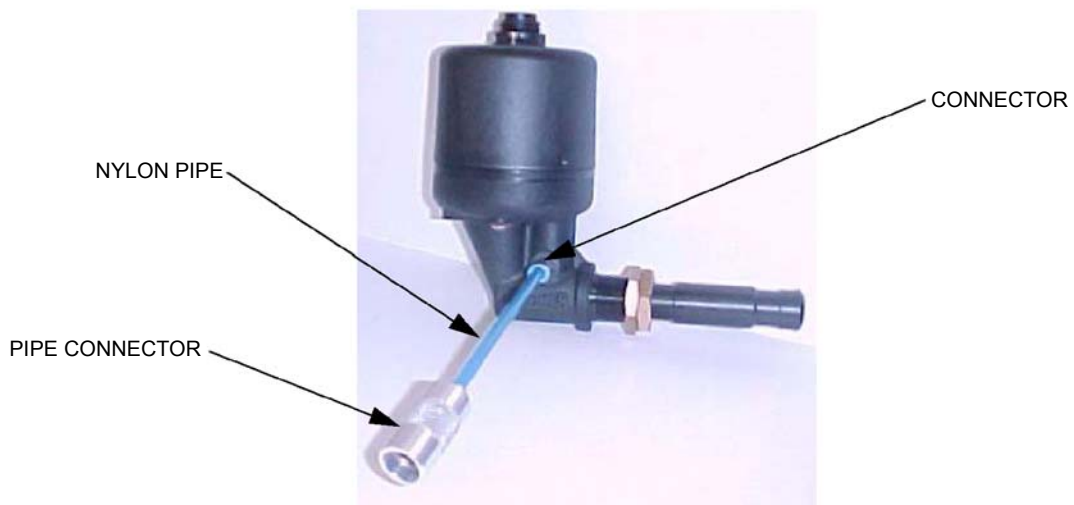

Figure 27: Smoke Test
- b. Push the nylon pipe of the smoke tester into the connector on the side of the detector base body (refer to Figure 27).